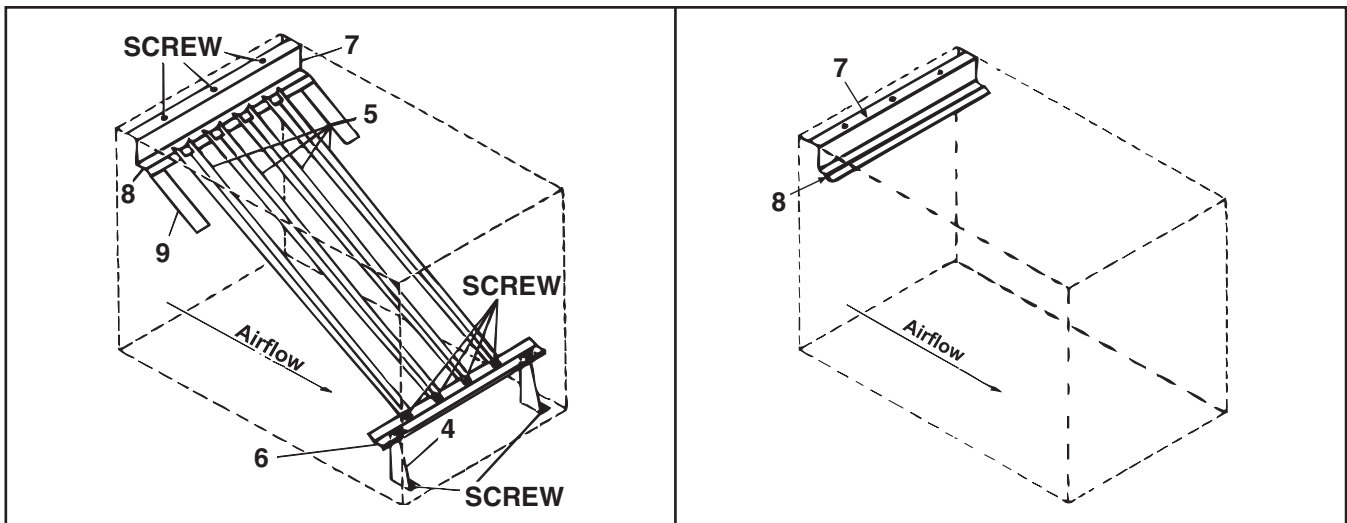

Figure 10. Heat Exchanger Baffle Assembly (Refer to Table 18)
- Models HX, HCX, HRX, HCRX, and packaged systems with an H or HC prefix are equipped with only a rear top baffle support (item 7, Table 18) and a rear top baffle (item 8, Table 18) as shown in Figure 10. If these parts cannot be salvaged, order and install replacements.